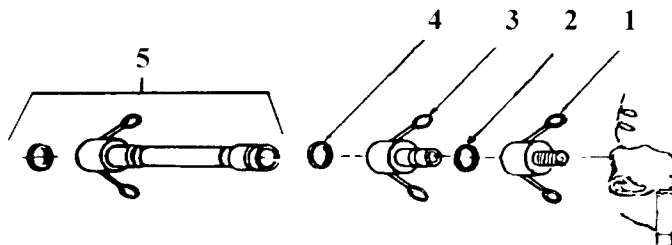

Figure 4-12 Hose Assembly.
- (1) Clean metal parts with an approved solvent and dry thoroughly.
- (2) Clean hose surface with a clean dry cloth.
**d. Disassembly.** When any of the components which make up a hose assembly become unserviceable, disassemble hose as shown in Figure 4-12 to replace unserviceable item.